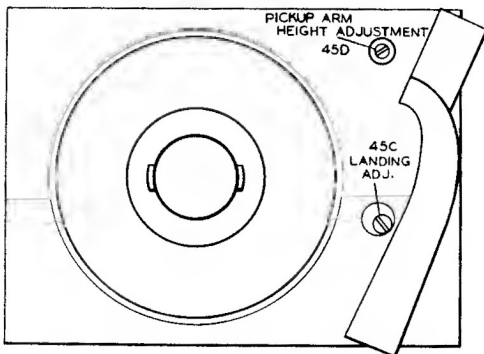

Figure 42—Height and Landing Adjustment Studs.
1. After the tripping adjustment has been made as described above, turn the eccentric landing adjustment stud (45C) so that the sapphire will set down on the record half-way between the outer edge and the first music groove. This position is 2 5/8" from the turntable spindle. The location of the adjustment stud is illustrated in Figure 42.
Set the mechanism in cycle. Turn the turntable by hand, until the pickup arm has reached its maximum height. By means of a screwdriver turn the height adjustment stud (45D) until the distance between the top of the turntable and the sapphire point is  $\frac{3}{4}$ " Use that position of the eccentric stud which causes the pickup arm to rise during clockwise adjustment of the stud. The location of the adjusting stud is illustrated in Figure 42.